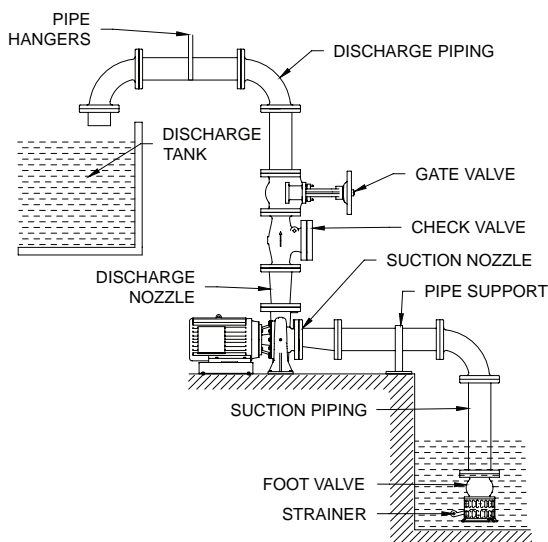

Figure 2
- The pump should be located as close to the liquid source as possible so that the suction line can be short and direct. See Figures 2 and 3 shown below.